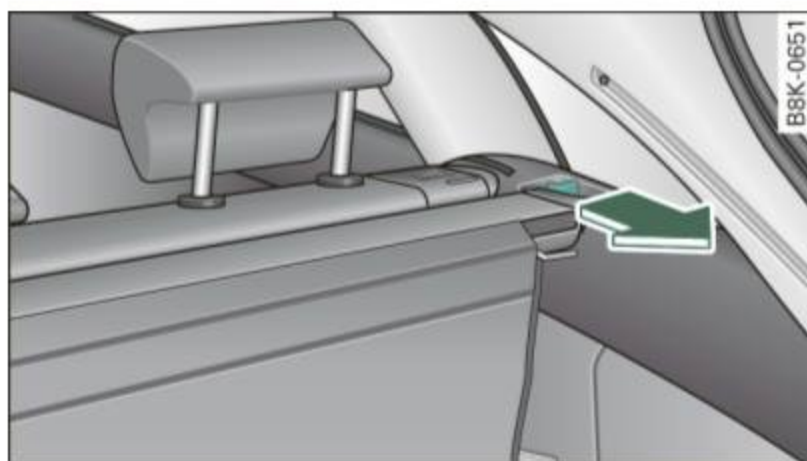

Fig. 81 Section of the front right area of the luggage compartment: Lever for removing the luggage compartment cover
- Pull the lever in the direction of the arrow ⇒ fig. 81 while lifting the cover out.